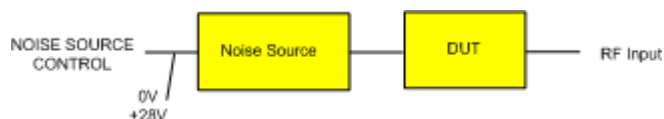

Fig. 4-2: Test setup for the main measurement
- Insert the DUT (in this example, the amplifier) into the test setup between the noise source and RF input of the R&S FSV (see figure 4-2).